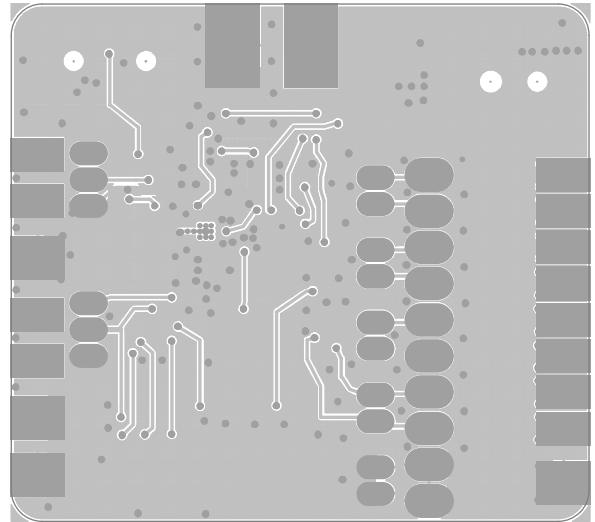
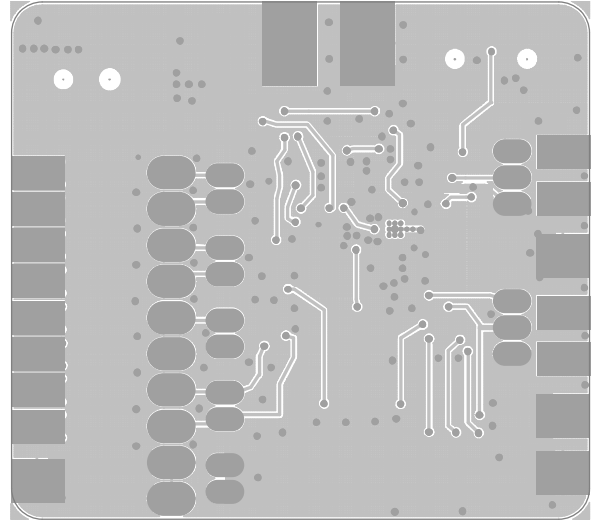

Figure 10. Bottom Layers
Figure 11. Mirrored Bottom Layers
- Use a solid polygon plane on the other side of the PCB for the area of the vias, which are placed on the thermal pad of the chip (see Figure 10 and Figure 11). This polygon serves as both the EMI shielding ground plane and the heat sink for the SSM2304.